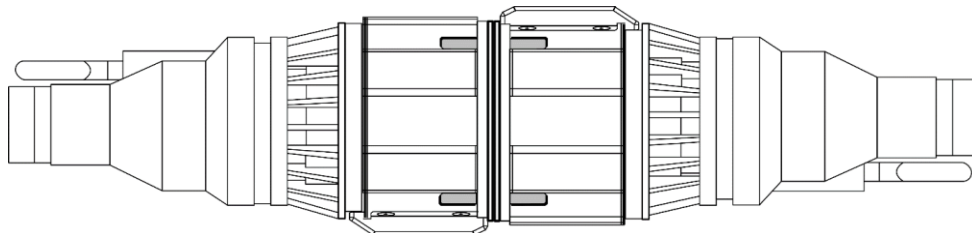

Figure 28: Connectors Mated and in the Lock Position
1. Figure 28 depicts the starting point for this procedure, in which Inline Connectors are mated and in the Lock position.